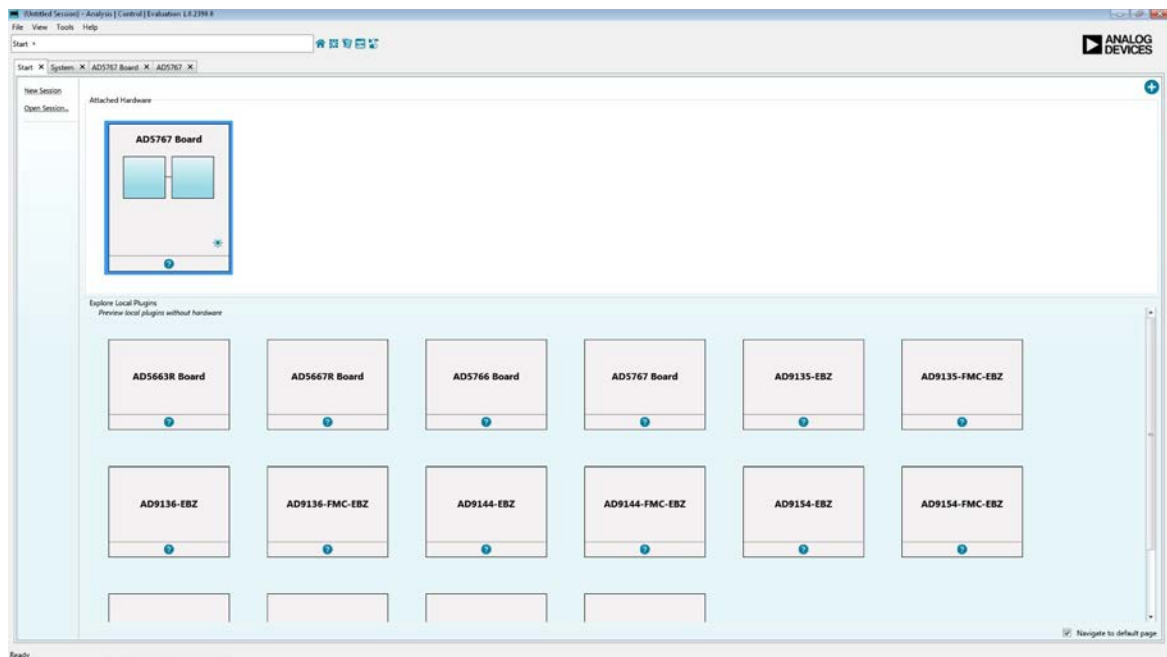
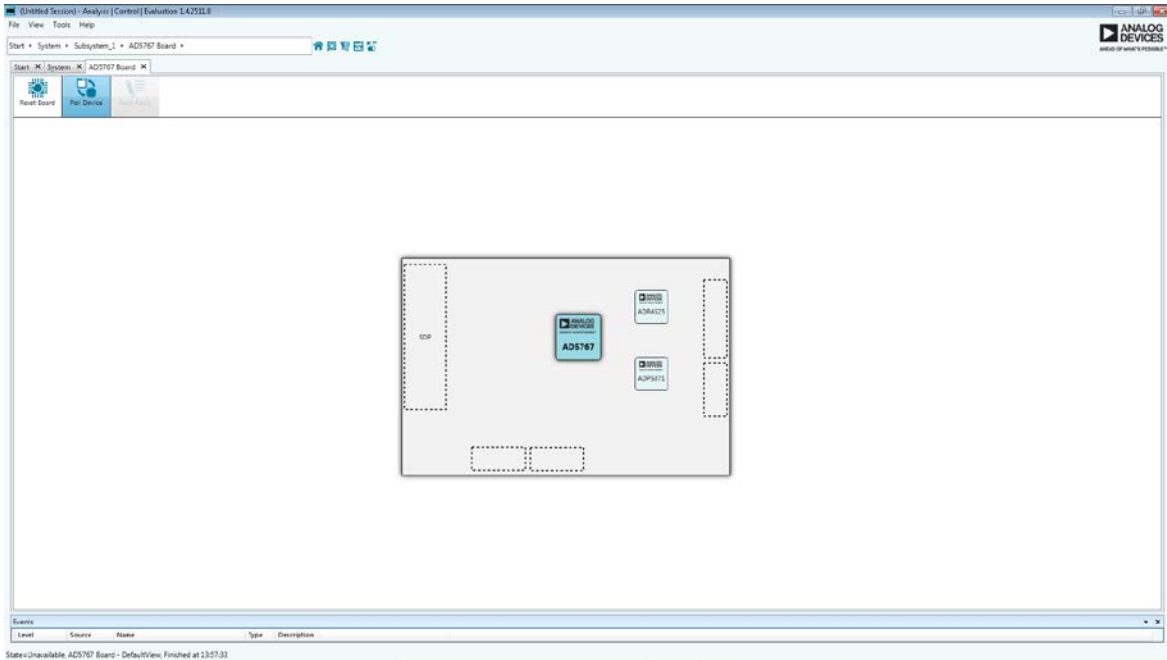
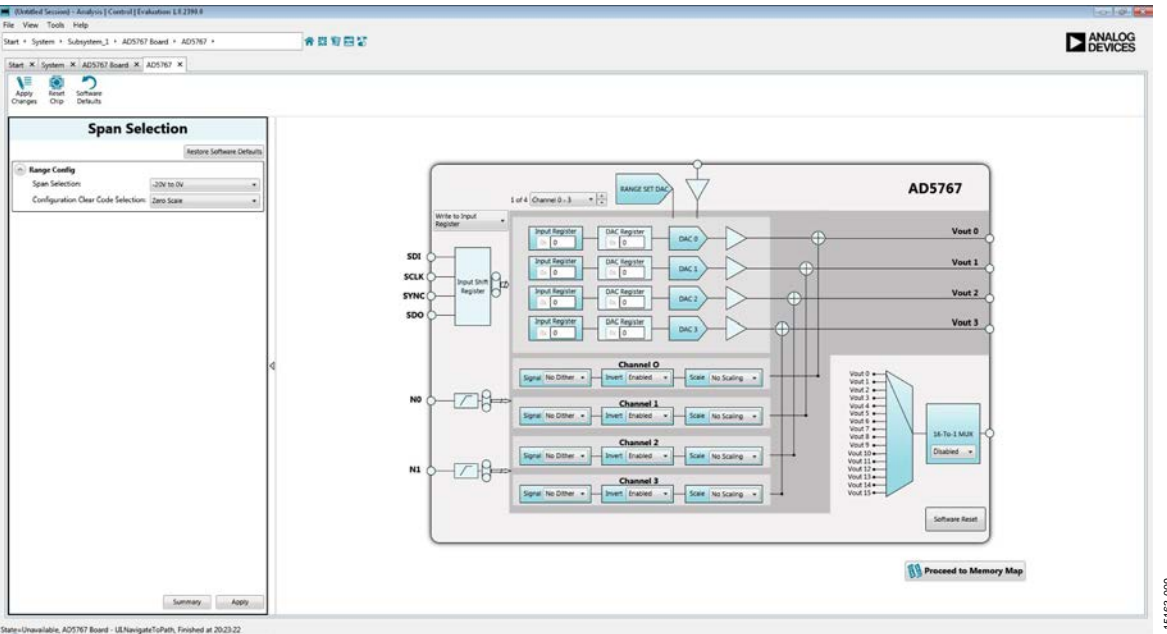

Figure 7. Start Tab for the EVAL-AD5767SD2Z ACE Software
Figure 8. AD5767 Board Tab for the EVAL-AD5767SD2Z ACE Software
Figure 9. AD5767 Chip Tab the for EVAL-AD5767SD2Z ACE Software
1. To launch the ACE software, click **Start > All Programs > Analog Devices > ACE**. The software opens in the **Start** tab and recognizes the EVAL-AD5767SD2Z (see Figure 7).
2. Double click the **AD5767 Board** icon under **Attached Hardware** to open the **AD5767 Board** tab (see Figure 7 and Figure 8).
3. Double click the **AD5767** icon under **Explore Local Plugins** shown in Figure 7 to open the **AD5767** chip tab (see Figure 9). This tab displays the block diagram and allows the user to configure the DAC input registers and control registers. The hardware registers on the AD5766/AD5767 are not altered until the **Apply Changes** button is clicked.